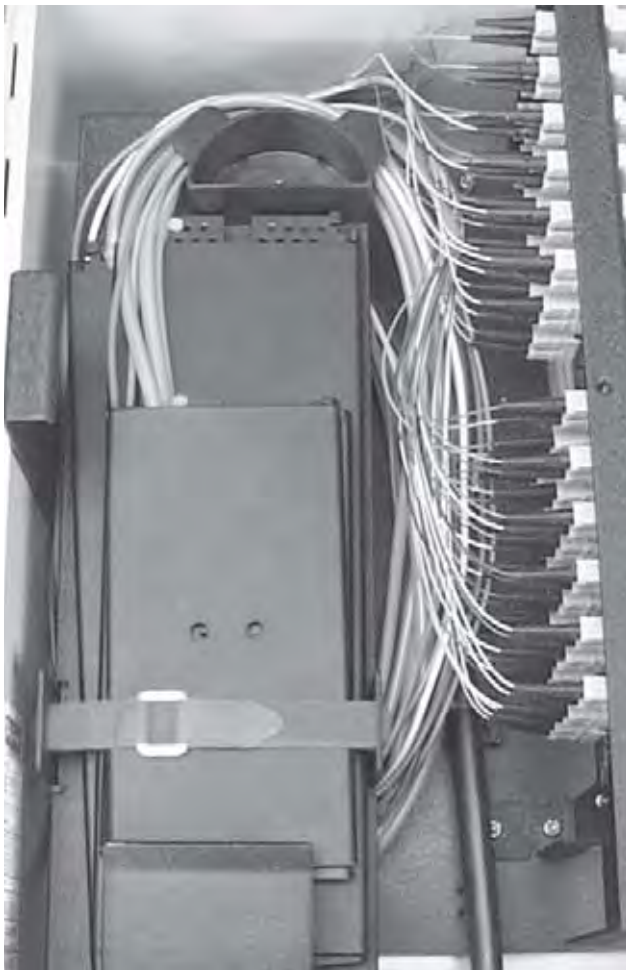

Figure 21
- d) At the third loop, reinstall the splice tray holder and trays (Figure 21).